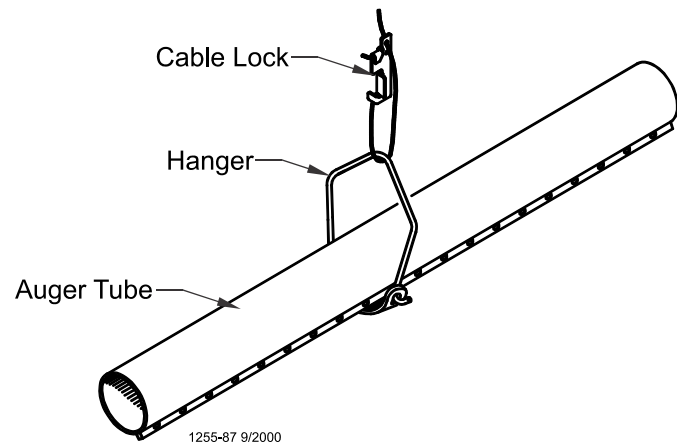

Figure 26. Hanger Installation
5. Install the Hangers on the feed line tube at the 8' [2.4 m] spacings determined by the suspension drop lines. **Figure 26.** shows the proper installation of the Hanger Assembly. Make sure the outlet drop hole is downward when the Hangers are installed, otherwise feed will not be allowed to drop into the feeder pan.